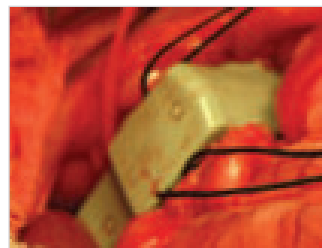

Fig. 5: Tying the pre-placed sutures together to close the liner.
4. Once both ends of the liner are around the vessel, remove the elastic tube and tie one pair of the pre-placed sutures together (Fig. 5) to close the liner taking care that the ends of the liner do not overlap. The liner edge is keyed so that two ends will meet smoothly.